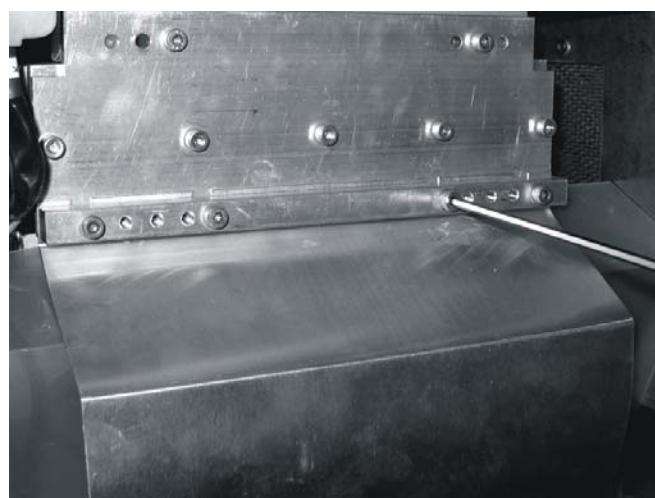

Figure 43: Removing the front thyratron grounding plate
3. Use the 3 mm allen key to loosen the screws (see Figure 43) and slide the front thyratron grounding plate and plastic insulation sheet down from their mounting.
33. Use the 3 mm allen key to attach the front thyratron grounding plate together with the plastic insulation (see Figure 43).